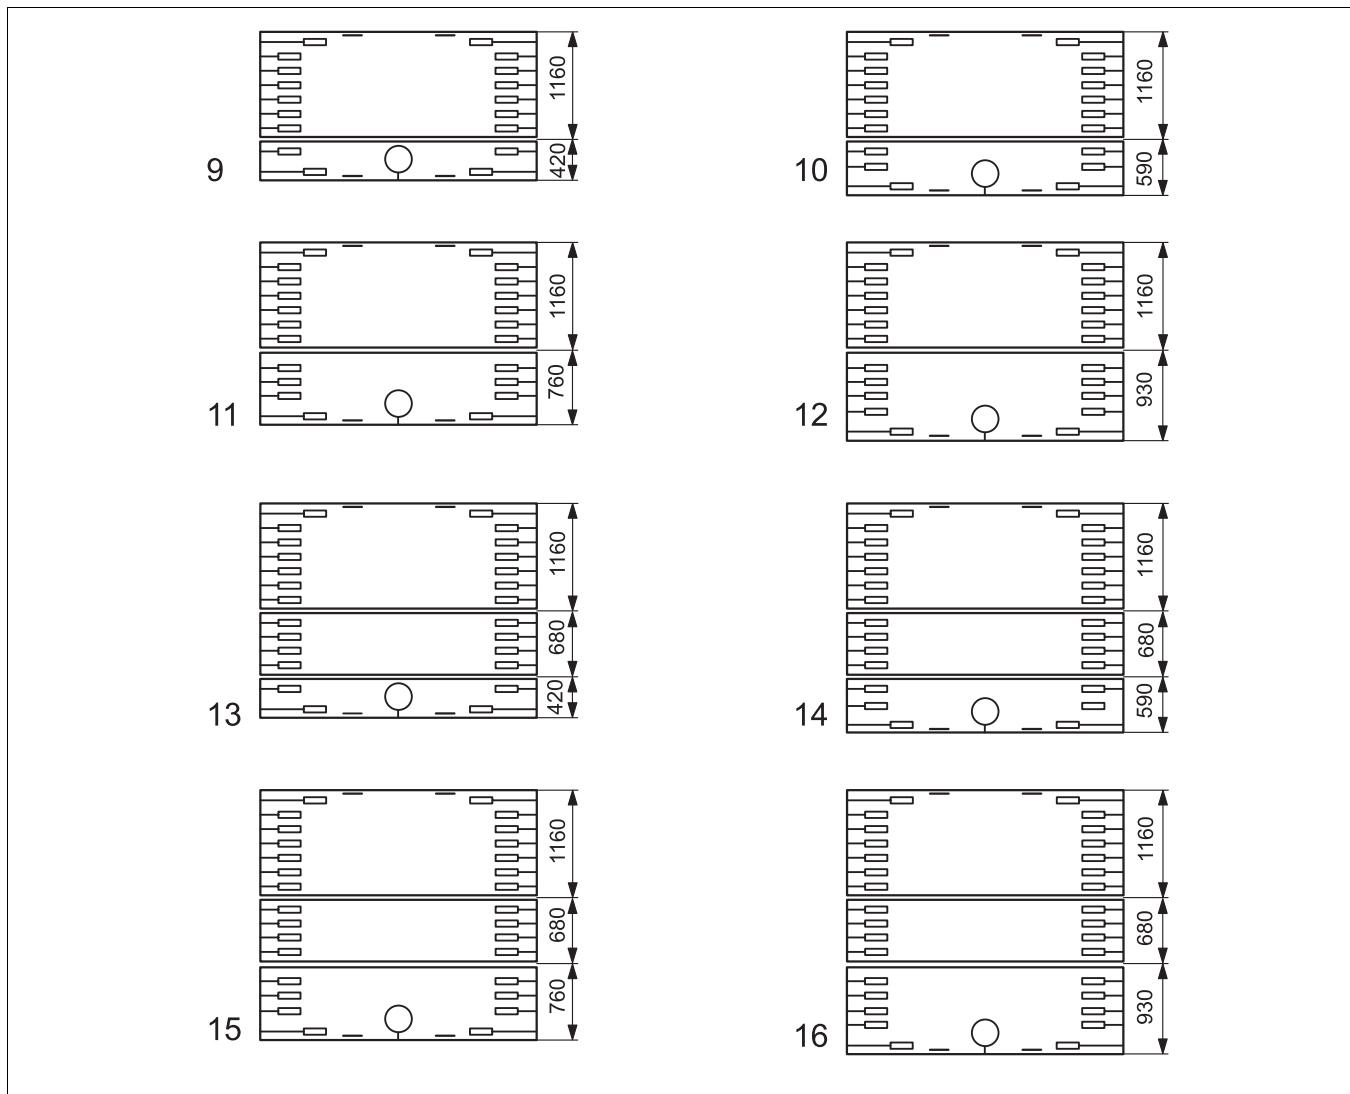

Fig. 38 Lagging for the various boiler sizes (dimensions in mm)
- ▶ Arrange the lagging on the boiler block as shown in the diagram in → Fig. 38 (the figures to the left of the boiler blocks represent the number of boiler sections).